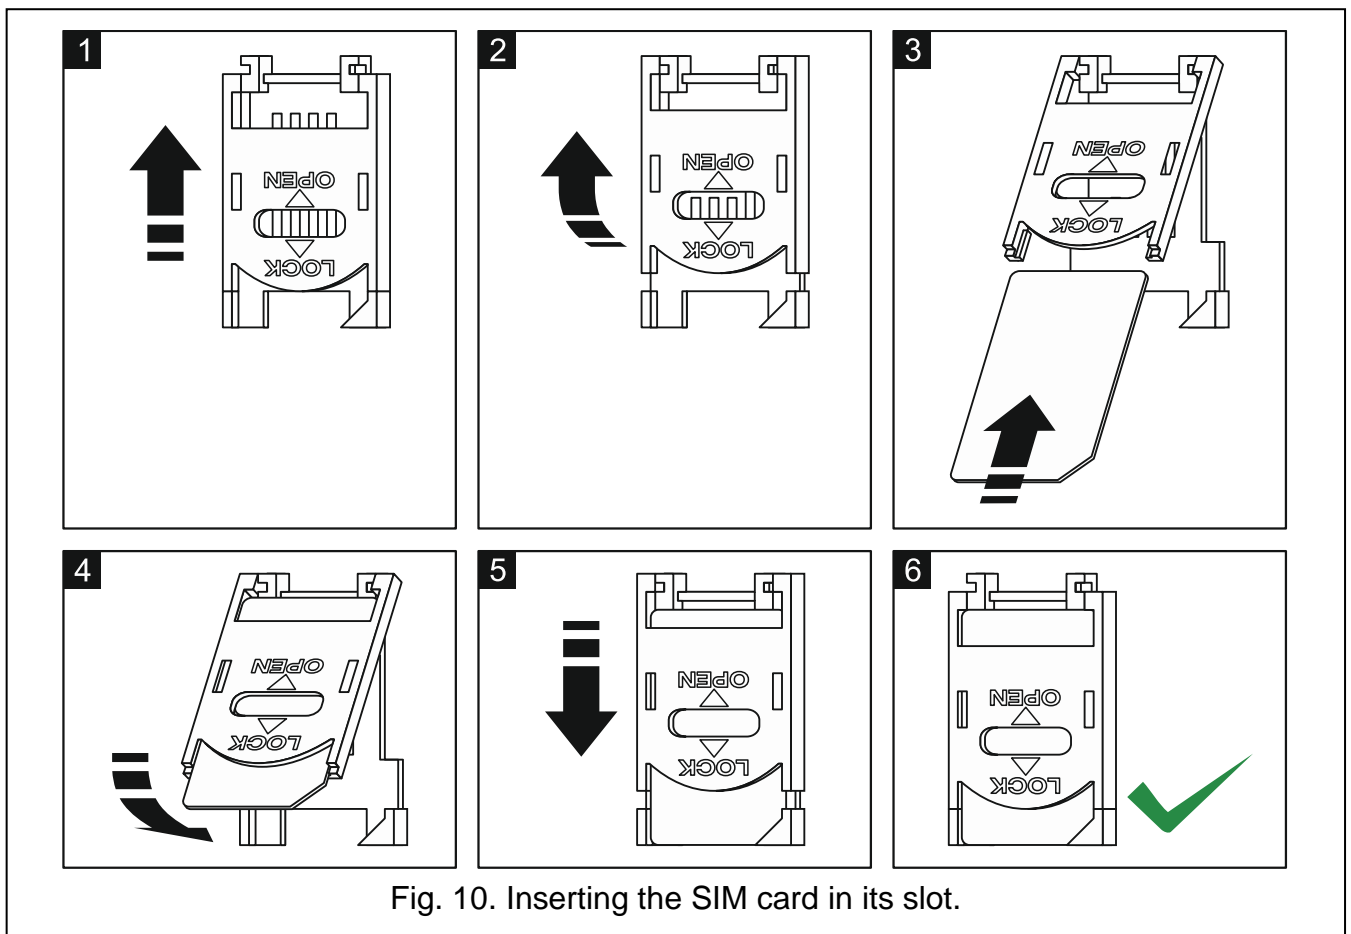

Fig. 10. Inserting the SIM card in its slot.
2. Insert the SIM card into the onboard socket (see: Fig. 10). Telephone logging into the GSM network may take a few minutes.